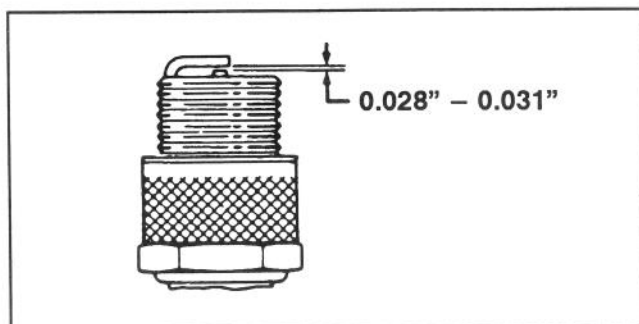

Figure 34
3. Set air gap at 0.028" – 0.031" (Fig. 34). Install correctly gapped spark plug and tighten firmly to 20 ft–lb.